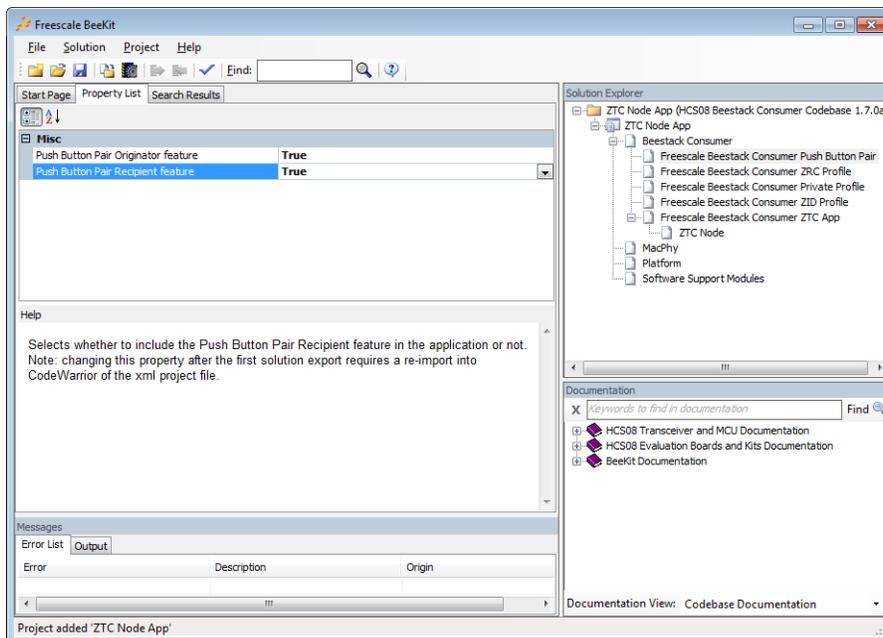

Figure 4-2. Enable the Push Button Pair Features
8. Select the “Freescale BeeStack Consumer Push Button Pair” component and enable the Push Button pair Originator and Recipient as shown in Figure 4-2.